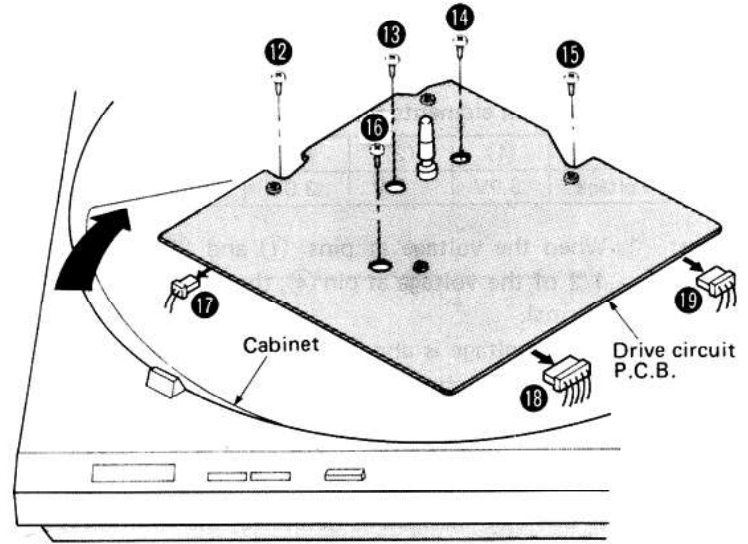

Fig. 5
2. Remove the 5 setscrews (Fig. 5 : 12 ~ 16) of stator frame.
3. Pull out the 3 connectors (Fig. 5 : 17 ~ 19) of drive circuit P.C.B.
4. Raise the left-hand side of cabinet (in the direction of the arrow of Fig. 5).